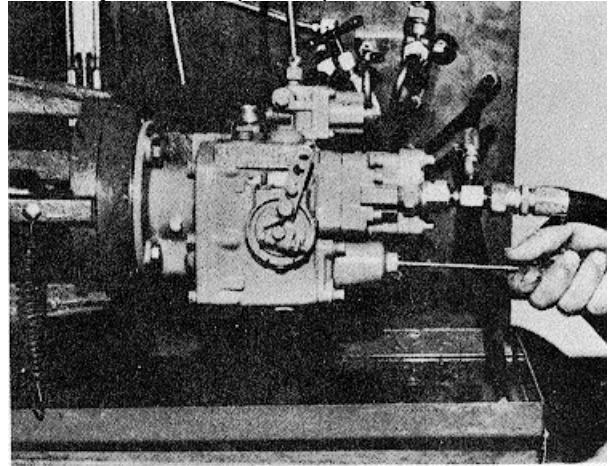

Fig. 5-1-22, F5175. Adjusting automotive governor idle
4. Check pressure on fuel manifold pressure gauge, it should be indicated by "Idle Speed." If pressure is low, screw idle adjusting screw in with ST-984, this screw is located inside governor spring pack housing. To lower pressure back out screw, Fig. 5-1-22. For example: 22 psi at 500 rpm.